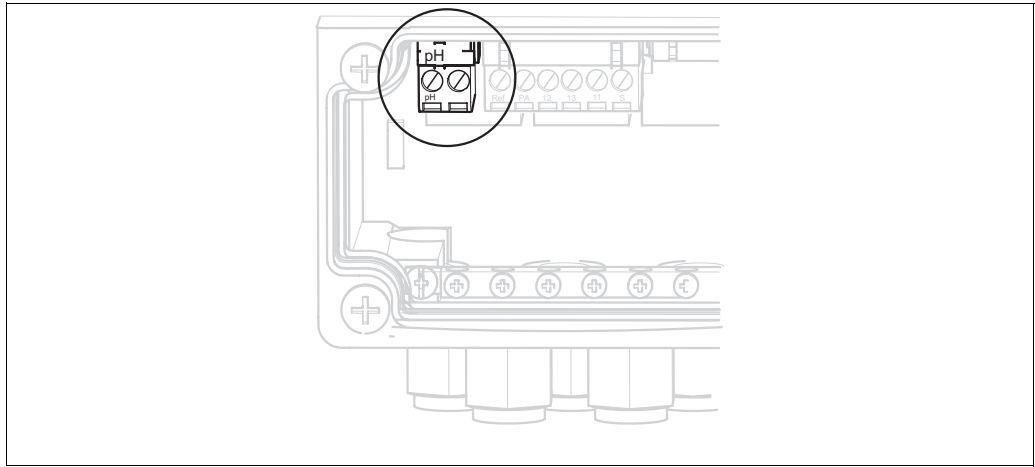

Fig. 27: pH terminal on housing cover
3. Remove the "pH" terminal on the housing cover (see Fig. 27) from the device and replace it with the "DRN/SRC" terminal supplied.